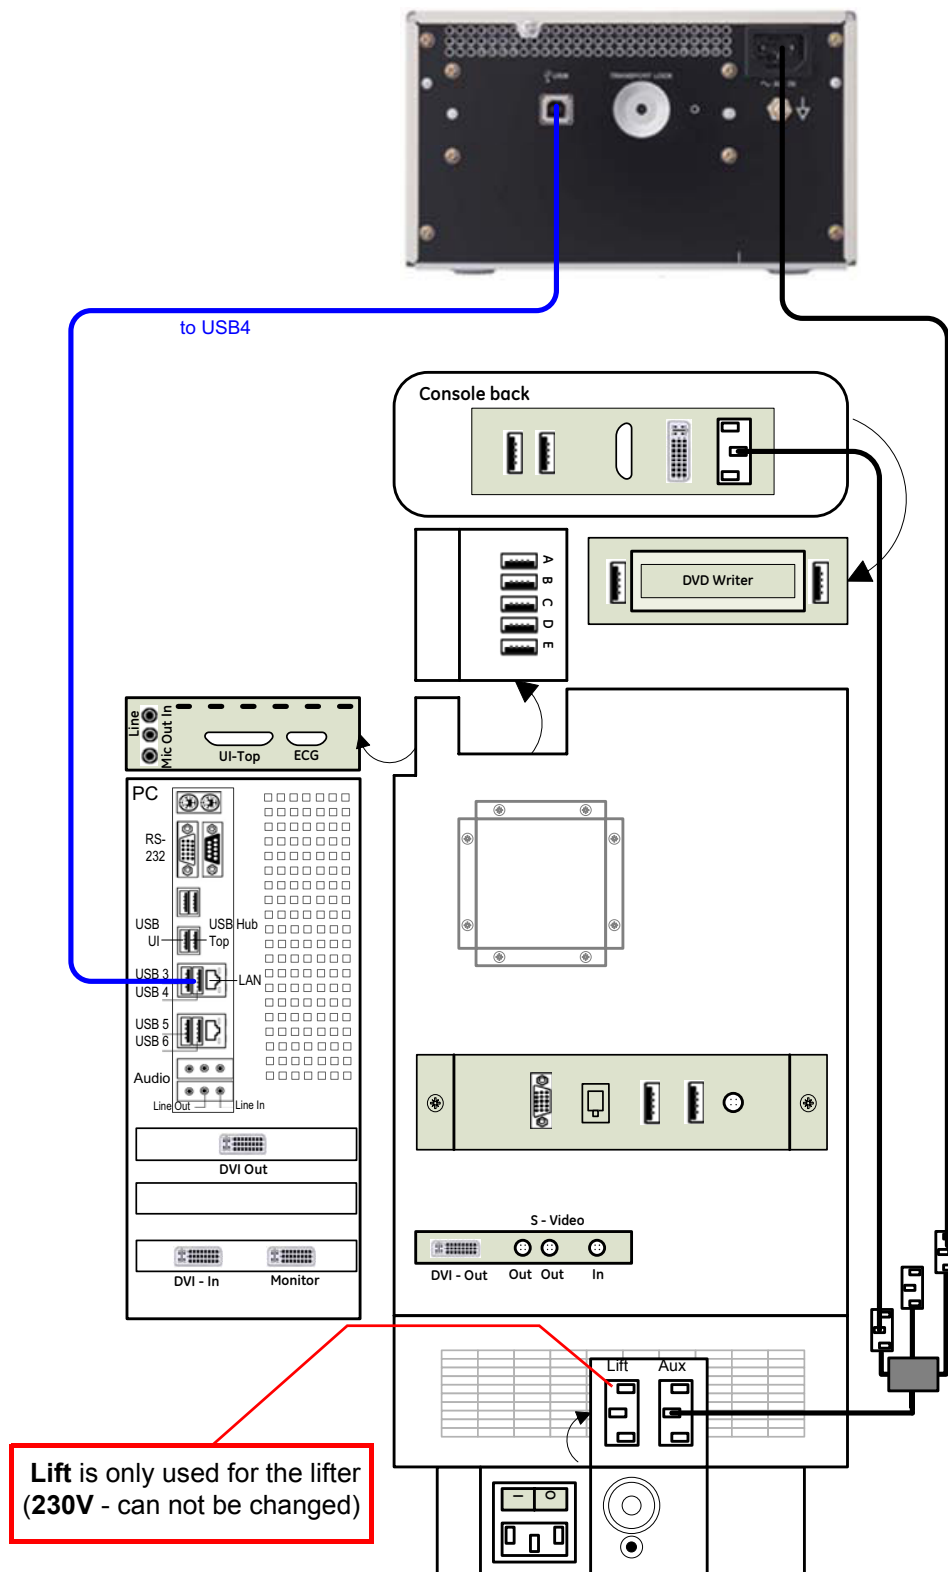

Figure 3-13 Color Printer connection (BT08: KONTRON Dual-core PC-Motherboard installed)
- if “**Kontron Dual-core**” PC-Motherboard is installed, see: Figure 3-13 on page 3-19.